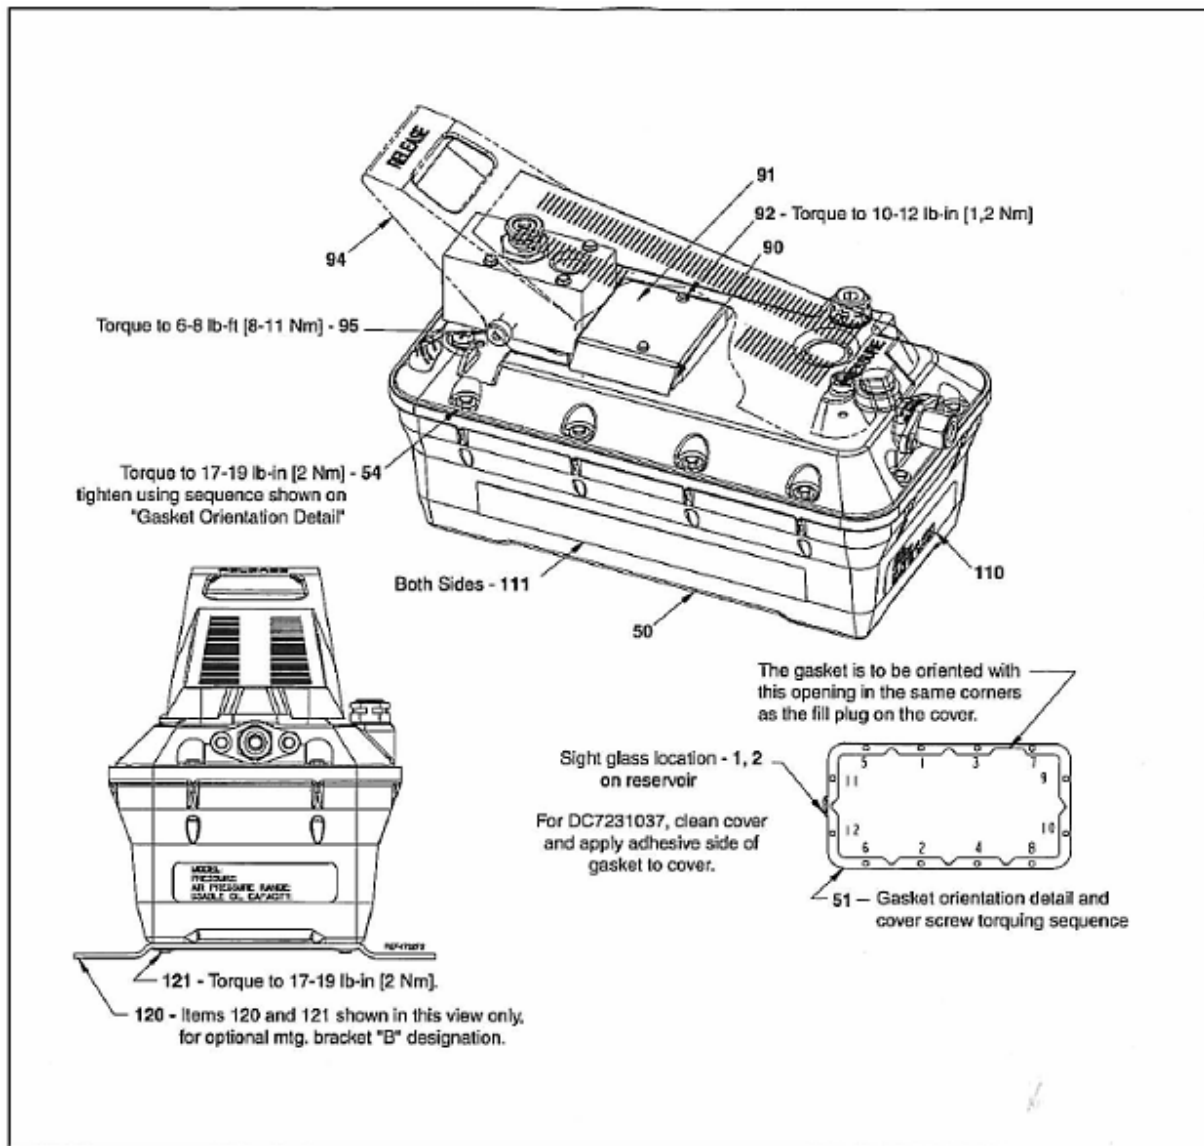

Figure 1, Treadle Assembly, 15000, 15020
5. Replace pump cover. Tighten fasteners according to torque sequence on Figure 1, Page 2.
Repair Parts List for Figure 1